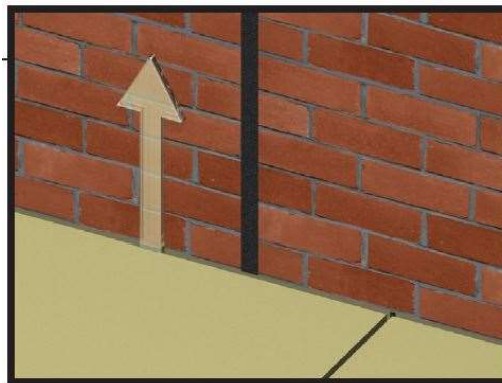

Figure 7
4. For joints that run horizontal, begin installing the material at one side of the joint (either side) and continue to install the material working towards the opposite end. For vertical joints, begin the installation at the bottom of the joint and work upward. See **Figure 7**